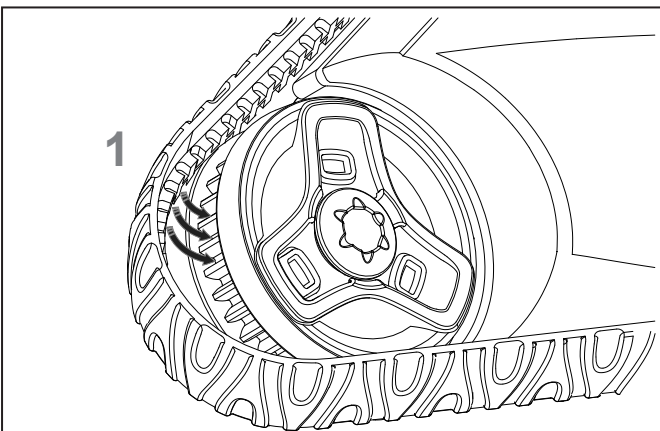

Figure 31. Position Track into Wheel Grooves
3. To install a new track, place the inside rib of the track into the groove in the first wheel. See Figure 31.